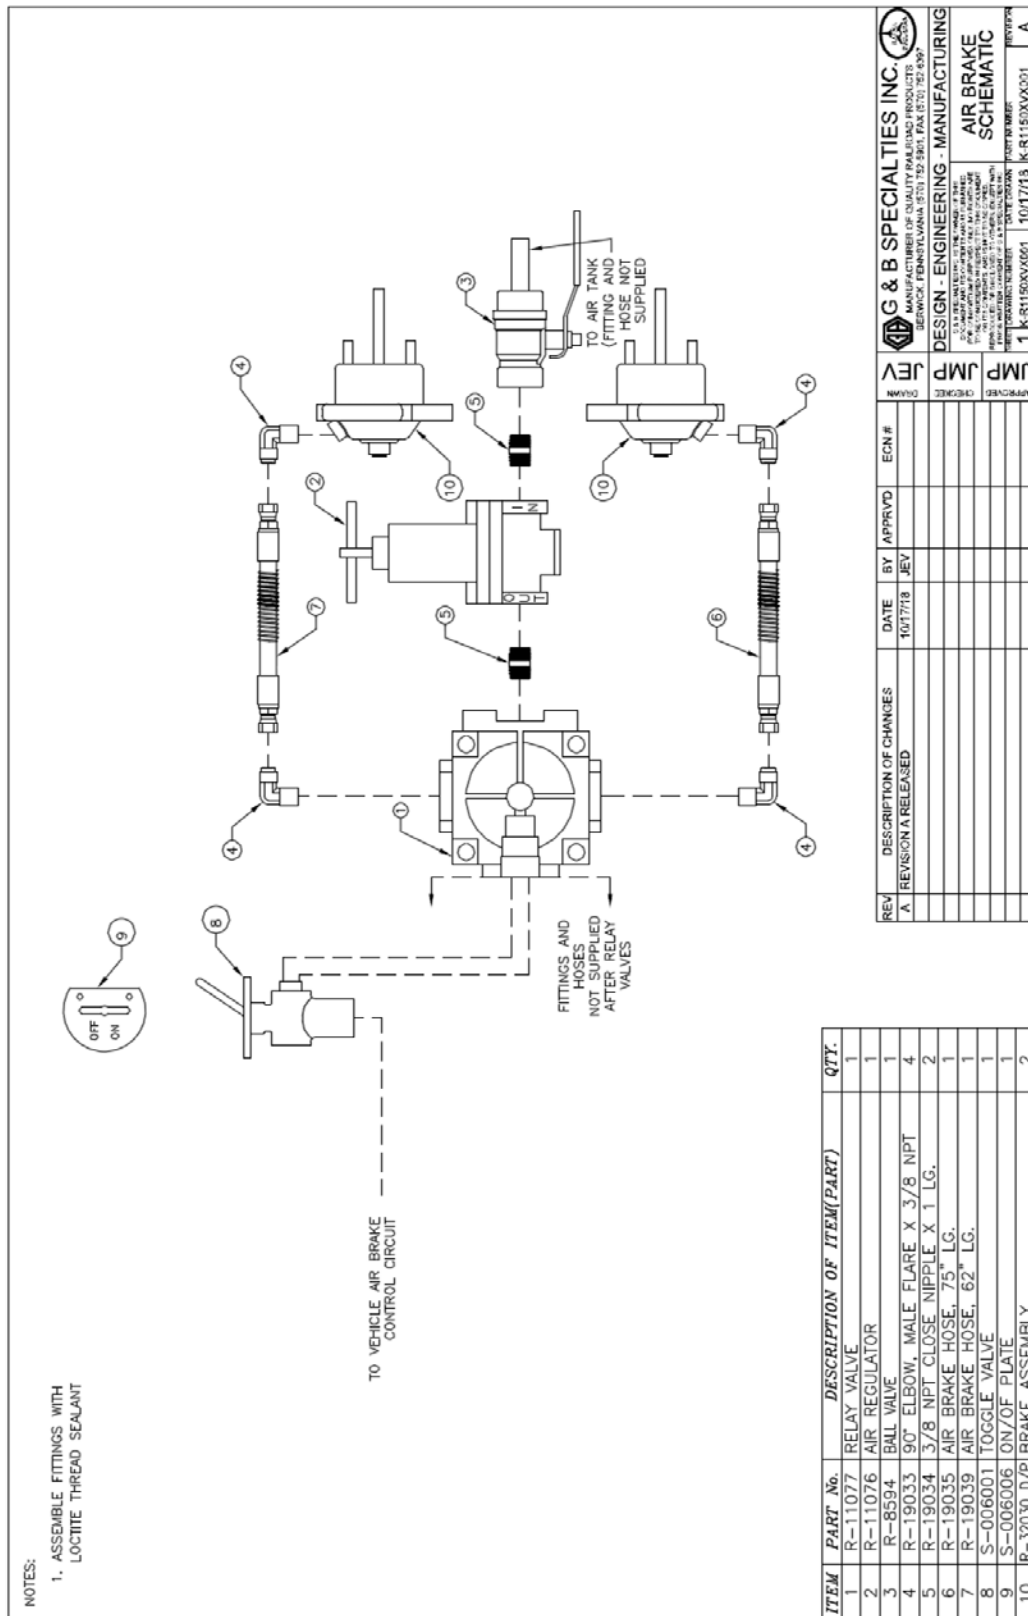

Figure 4-2 Brake Pneumatic Schematic
Install airlines and valves as shown in Air Brake Schematic, Figure 4-2. Make certain that the front air brake pressure regulator is set to 75 PSI.
4. Proceed to plumb brakes as shown in Figure 4-2.